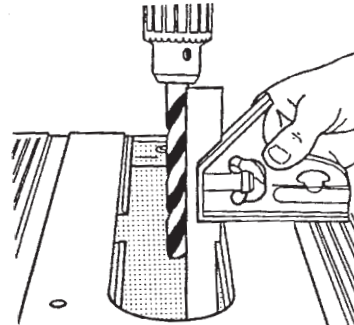

Figure C-18
11. Set the combination square against the bit and table, as shown in Figure C-18. The square should contact the bit along its entire length.